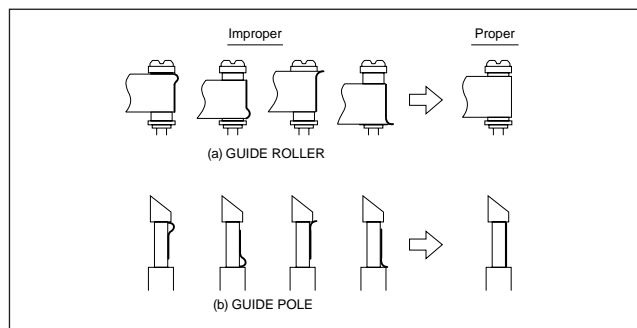
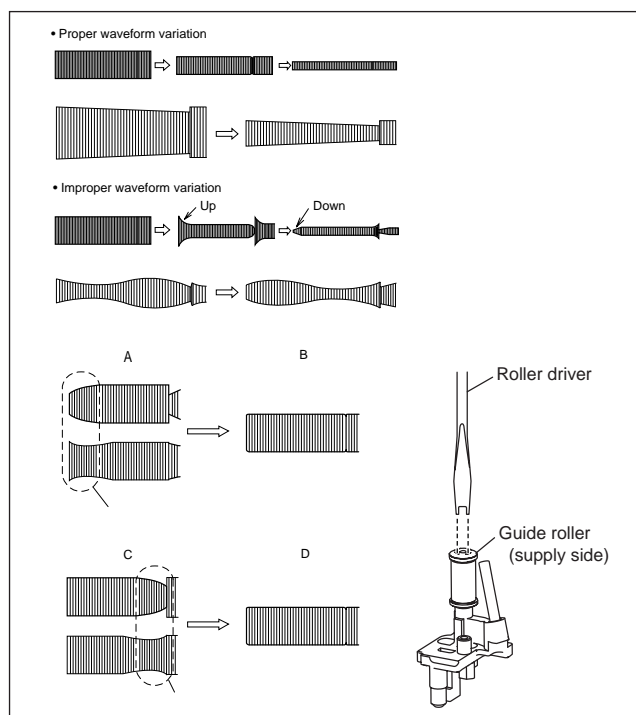

Fig. 3-2-2a
Fig. 3-2-2b
- To prevent damaging the alignment tape in the compatibility adjustment, prepare a cassette tape (for self-recording/play-back), perform a test on it by transporting it and making sure that the tape is not bent by the tape transport mechanisms such as in the guide rollers.(See Fig.3-2-2a)
- (1) Play back the alignment tape (A1).
- (2) Apply the external trigger signal to D.FF (E), to observe the V.PB FM waveform at the measuring point (D).
- (3) Set the VCR to the manual tracking mode.
- (4) Make sure that there is no significant level drop of the V.PB FM waveform caused by the tracking operation, with its generally parallel and linear variation ensured. Perform the following adjustments when required. (See Fig. 3-2-2b.)
- (5) Reduce the V.PB FM waveform by the tracking operation. If a drop in level is found on the left side, turn the guide roller of the pole base assembly (supply side) with the roller driver to make the V.PB FM waveform linear. If a drop in level is on the right side, likewise turn the guide roller of the pole base assembly (take-up side) with the roller driver to make it linear. (See Fig. 3-2-2b.)
- (6) Make sure that the V.PB FM waveform varies in parallel and linearly with the tracking operation again. When required, perform fine-adjustment of the guide roller of the pole base assembly (supply or take-up side).
- (7) Unload the cassette tape once, play back the alignment tape (A1) again and confirm the V.PB FM waveform.
- (8) After adjustment, confirm that the tape wrinkling does not occur at the roller upper or lower limits. (See Fig. 3-2-2a.)